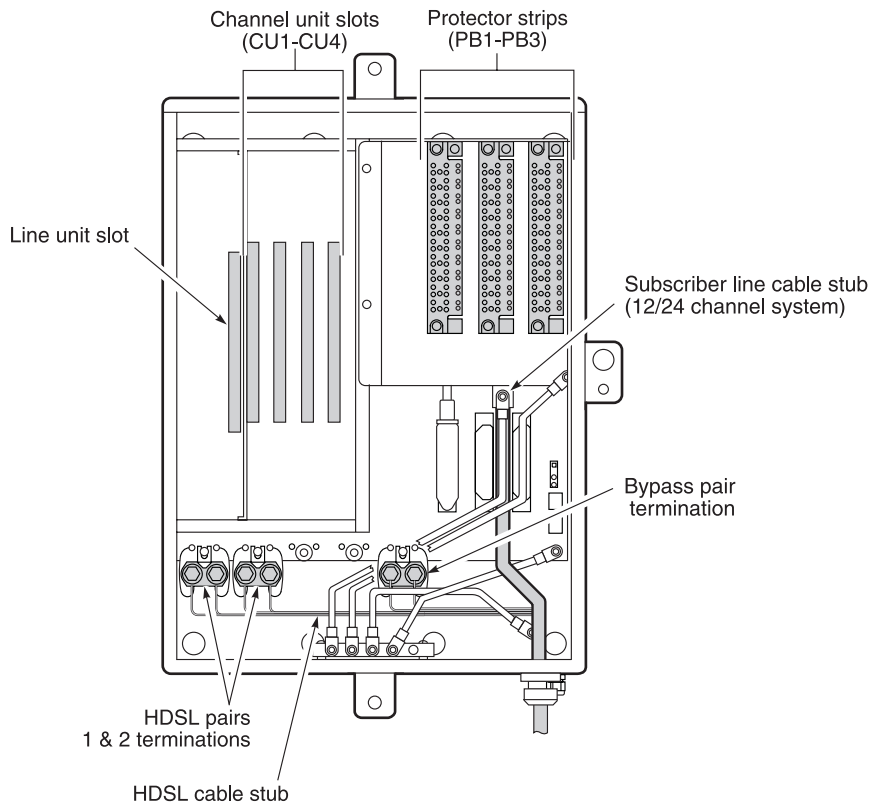

Figure 4. FRE-765 List 4D and 4E RT Enclosure (Interior View)
- List 4D and 4E—see Figure 4 on page 3